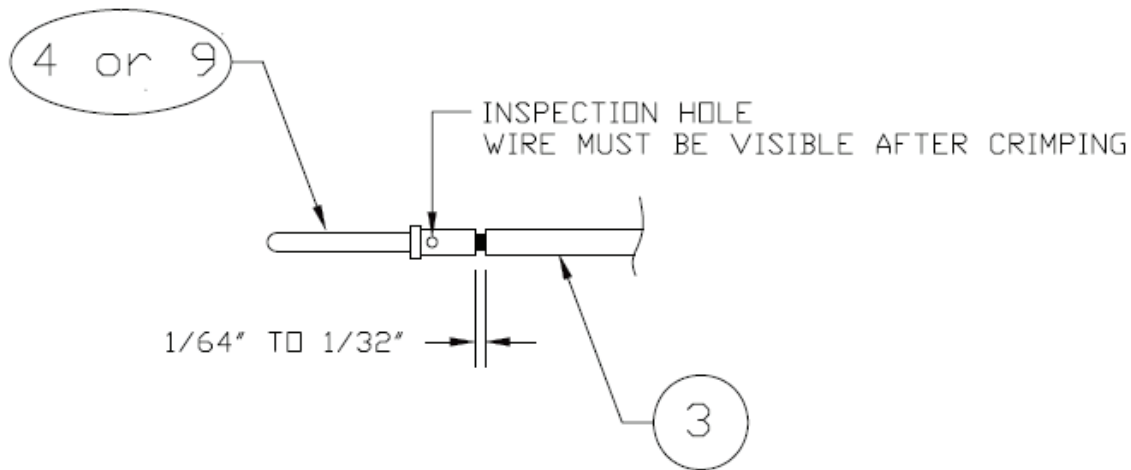

Figure B-3 Insulation/Contact Clearance
For the following steps please refer to Figures B-3 & B-4.
1. Strip back approximately 0.17 inches of insulation from each wire of the four conductor wire harness (item 3) and crimp either a pin (item 4) or a socket (item 9) to each conductor. It is the responsibility of the installer to determine the proper length of insulation to be removed. Wire must be visible in the inspection hole after crimping and the insulation must be $1/64$ – $1/32$ inches from the end of the contact as shown in Figure B-3.